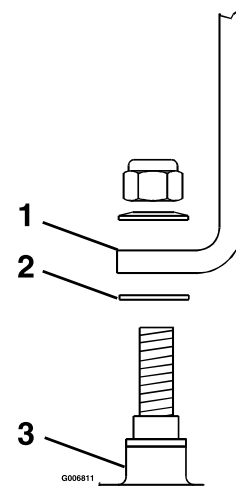

Figure 25
1. Remove the 3/8 inch nyloc nut and spring disc washer from the stud on top of the transmission (See Figure 25).